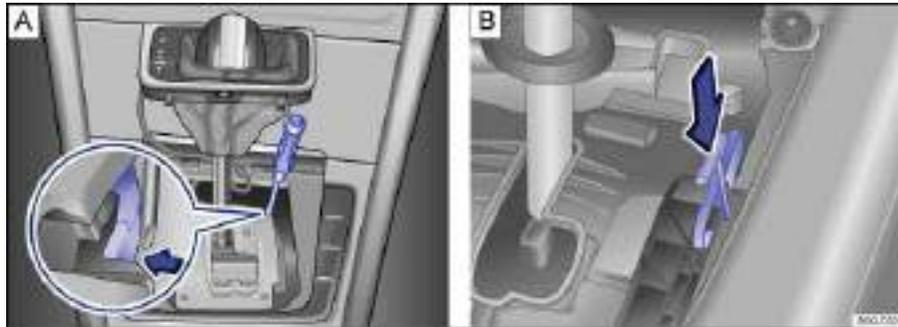

Fig. 183 Releasing the selector lever lock (versions A and B).
- With the screwdriver from the vehicle tool kit, carefully push the release lever ⇒ fig. 183 A in the direction of the arrow and hold it in this position.
- Push the colored release lever ⇒ fig. 183 B in the direction of the arrow and hold it in this position.